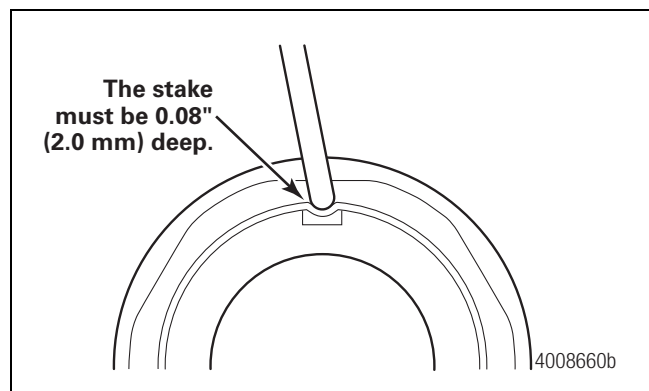

Figure 5.21
10. Stake the nut by deforming the flange into the channel on the spindle at two locations 180 degrees apart. The stake must be 0.08-inch (2.0 mm) deep. Figure 5.21.